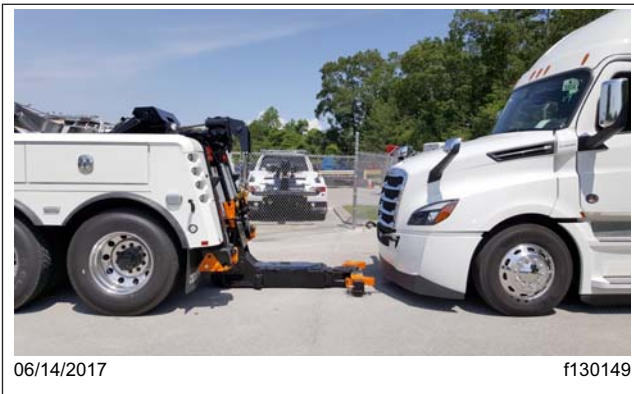

Fig. 13.8, Positioning the Stinger Assembly
4. Lower the stinger assembly so that it is level and approximately 1 inch (0.3 cm) off the ground. Back the tow truck so that the crossbar with lift adaptors is within 6 inches (15 cm) of the Aero bumper. See Fig. 13.8.